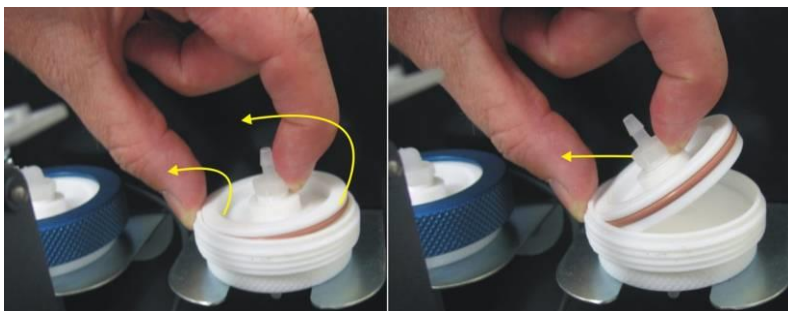

Figure 58 – Removing plunger
4. Remove the filter plunger from the casing, place finger on tubing connector and pull to the side (refer to Figure 58).